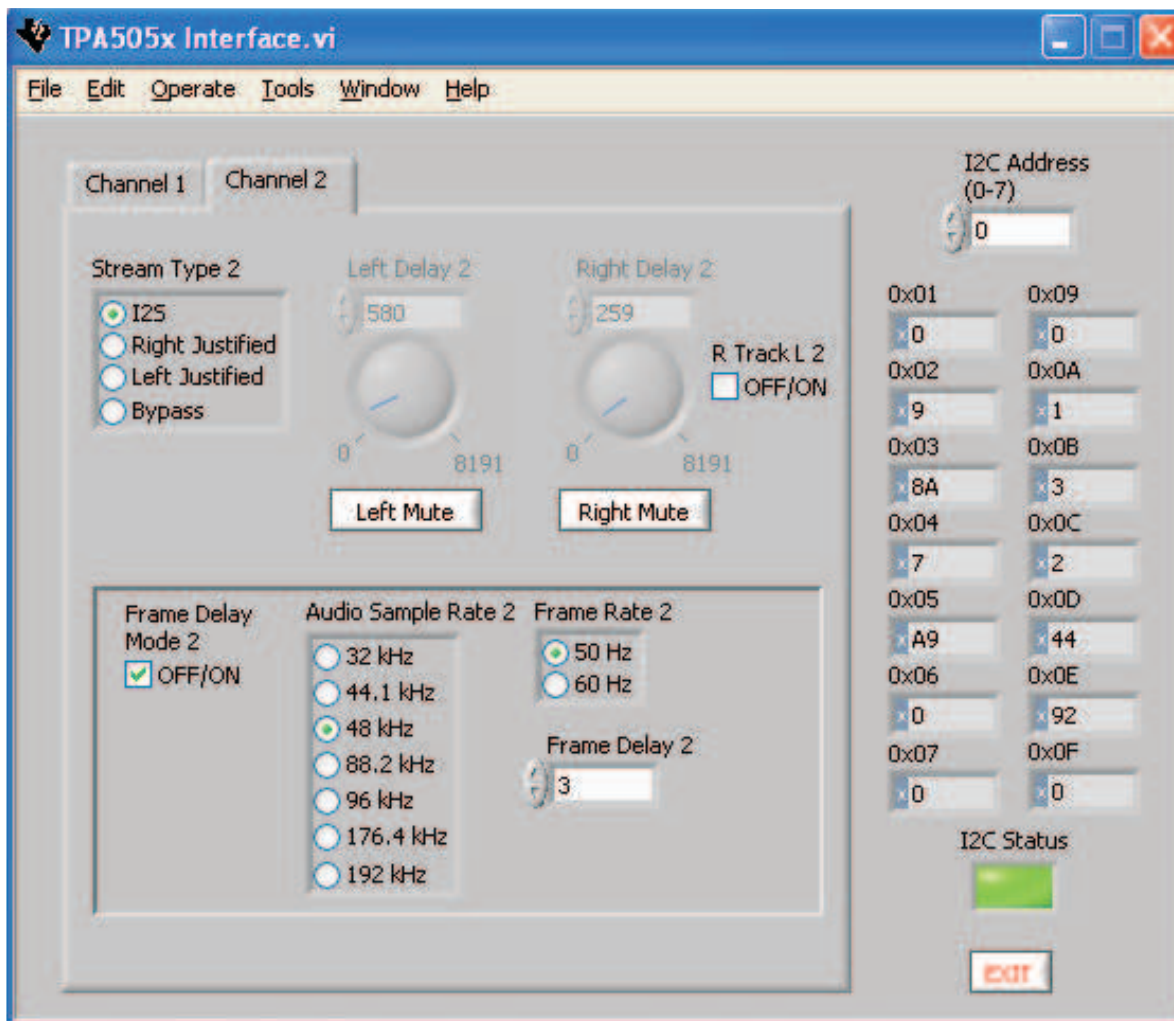

Figure 2. TPA5051 in I2S Mode With Frame Delay
5. The delay also can be controlled with the *Frame Delay* option. Simply click on the *Frame Delay Mode 1 ON/OFF* box, and the frame delay options become available. Frame delay mode affects both left and right channels simultaneously (see Figure 2).
10. The channel selection tab is designed for use with the TPA5051, which has two independent digital audio inputs. Selecting the *Channel 1* tab allows control of the registers for digital audio input 1 (DATA1 of the device). Selecting the *Channel 2* tab allows control of the registers for digital audio input 2 (DATA2 of the device). See Figure 2